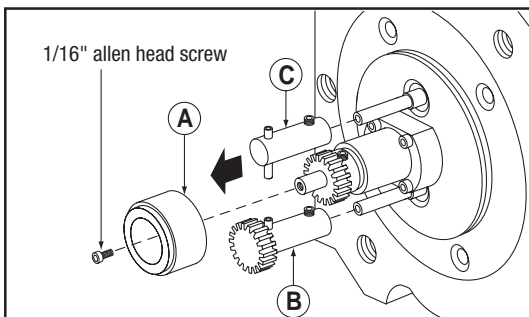

Fig. 3-14 Removing Magnet Assembly (A), Oil Slinger (B) & Oil Slinger Hub (C)
Step 2: Remove the 1/16" allen head screw and magnet holder. (Fig. 3-14)
oil slinger (B) from bottom impeller shaft. (Fig. 3-14)
Step 4: Loosen set screw and remove oil slinger hub (C) from top impeller shaft. (Fig. 3-14)